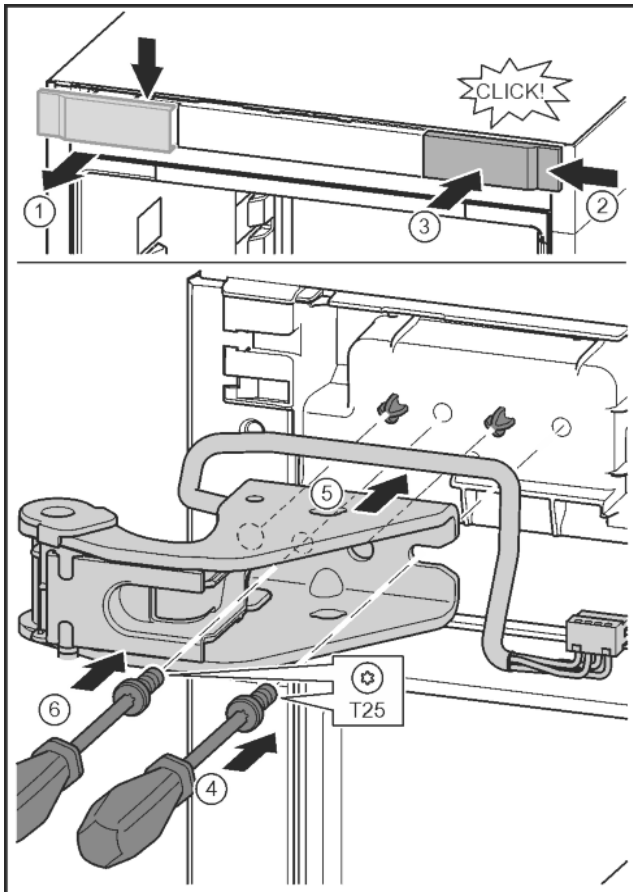

Fig. 27
- ▶ Undo the cover with a screwdriver and remove sideways. Fig. 27 (1)
- ▶ Rotate the cover 180° and clip onto the other side from the right. Fig. 27 (2)
- ▶ Click the cover into place. Fig. 27 (3)
- ▶ Position the screw with a T25 screwdriver. Fig. 27 (4)
- ▶ Position the upper bearing bracket. Fig. 27 (5)
- ▶ Tighten the screw. Fig. 27 (4)
- ▶ Insert the screw with a T25 screwdriver and tighten. Fig. 27 (6)